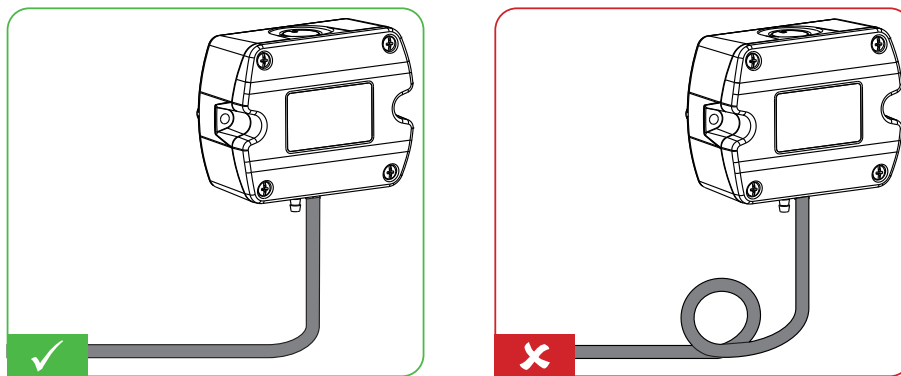

Fig. 9 Pressure hose route
- Connect the pressure hose (included in the scope of supply) first to the EE610 and then to the nipples at the duct. Route the pressure hose for avoiding sharp bends which might lead to the hose obstruction („Fig. 9 Pressure hose route“).